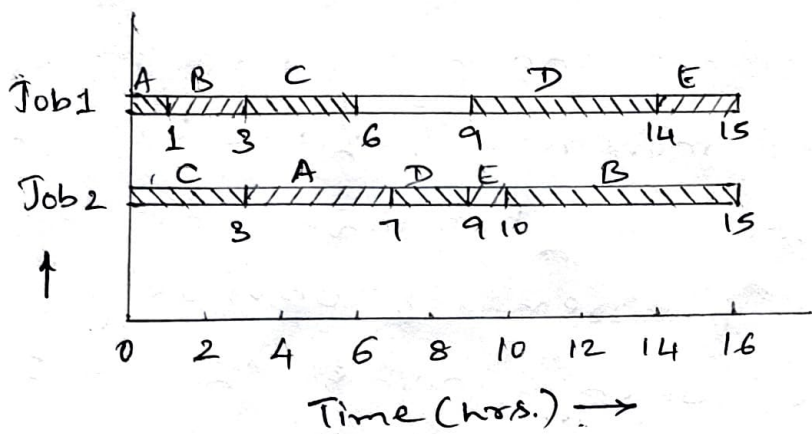

Fig 5.3
Step 7: The optimal sequence corresponding to the chosen path is shown in Fig. 5.3.
The optimal sequence or schedule on various machines for the two jobs are evident from Fig 5.3 is